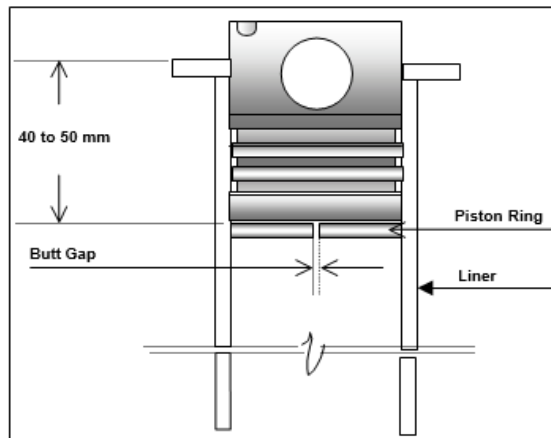

Figure 17
- Insert one piston ring at a time in the liner. To set the ring squarely inside the liner, push it down of liner with a piston (Figure 17).